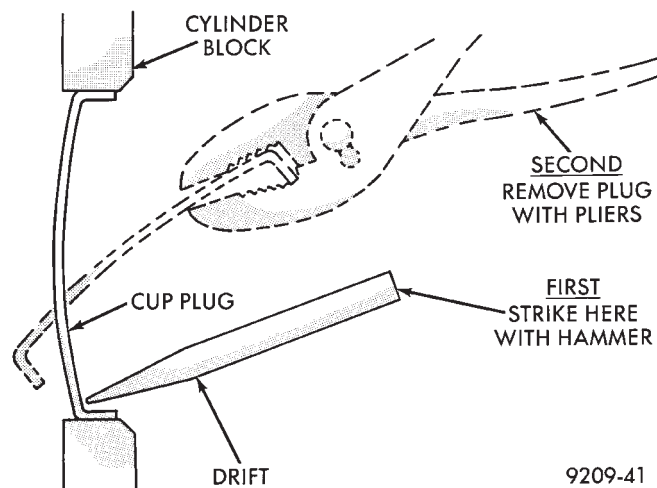

Fig. 49 Core Hole Plug Removal
(1) Using a blunt tool such as a drift or a screwdriver and a hammer, strike the bottom edge of the cup plug (Fig. 49).
(2) With the cup plug rotated, grasp firmly with pliers or other suitable tool and remove plug (Fig. 49).